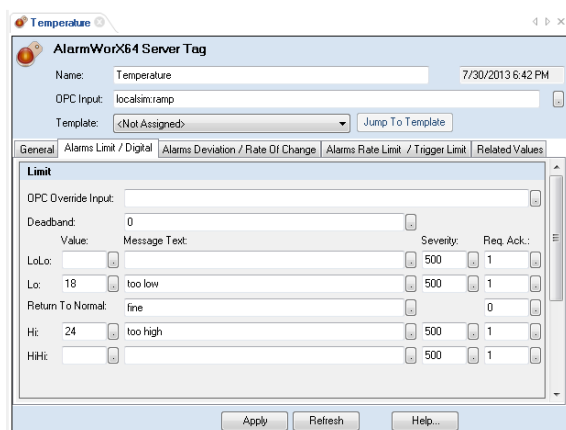

Figure 12 - Creating a Limit/Digital Alarm
5. Click on the **Alarms Limit/Digital** tab and configure the **Limits** as shown in Figure 12 and click Apply.